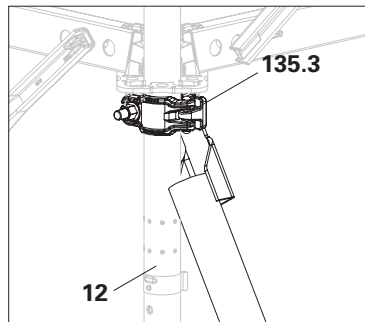

Fig. A15.04a.
(Fig. A15.04a):
2. From a safe work location, fit the upper coupling (**135.3**) to the standard (**12**). Push the coupling as close as possible to the rosette and tighten. (Fig. A15.04a)